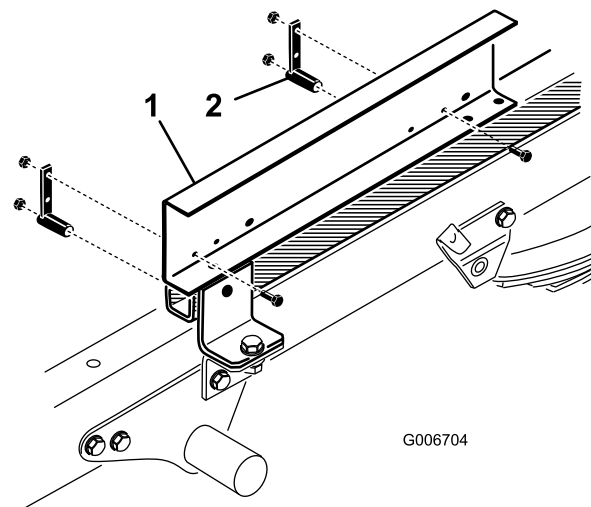

Figure 16
38. Secure lift mounting brackets to lift with (4) 5/16-18 x 1" large flange head capscrews and flangenuts. Position brackets as shown in Figure 16.
40. Secure lift mounting brackets to H.D. Hitch Tubes with (4) 5/16-18 x 2-3/4" large flange head capscrews and flangenuts.